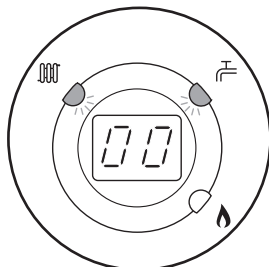
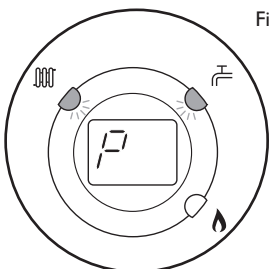

Fig. 42
Fig. 43
5. Turn CH temperature control knob fully clockwise. As the knob is turned the display will change from '0' to '00' (Fig. 42) indicating maximum rate, then revert to 'P' alternating with the current boiler temperature (Figs 43 & 44).